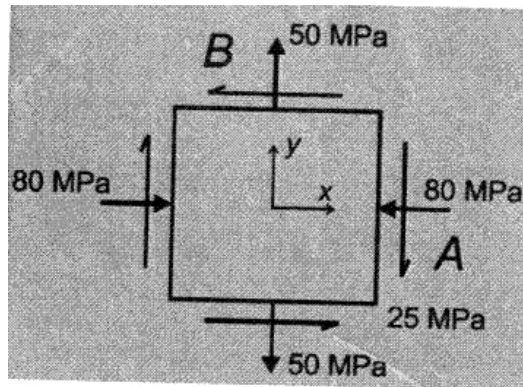

Figure 2
- (b) A material is subjected to stress as shown in Figure 2. Use the Mohr's circle to determine
- Show the principal stresses calculated above on a sketch of the element. (13)